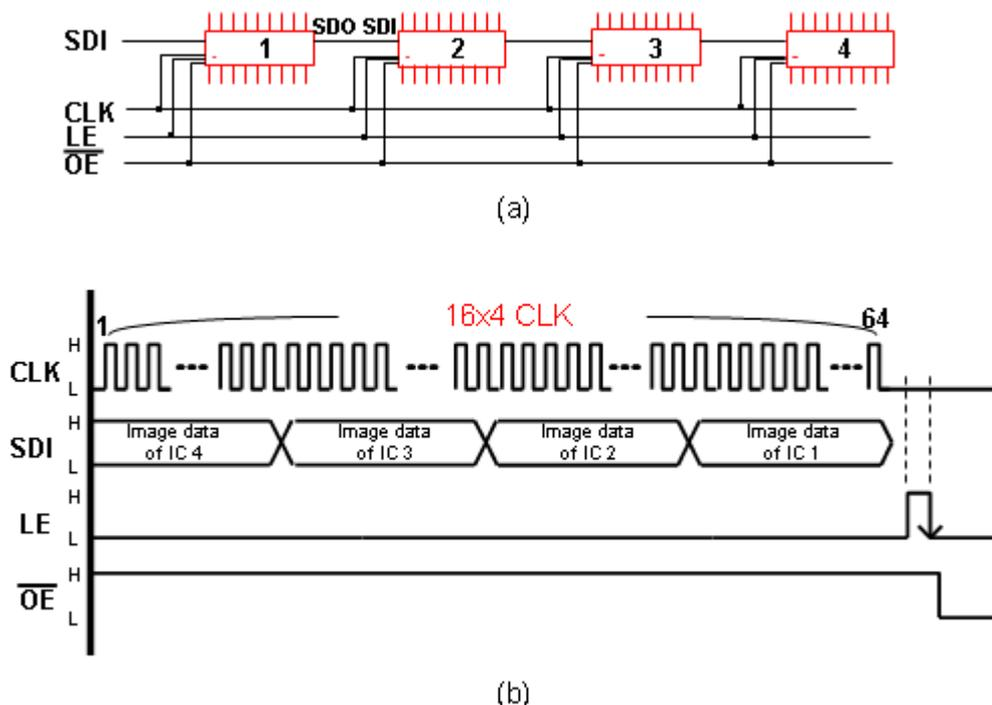

Figure 3(a). The sketch of 4pcs MBI5039 is in cascade.
Figure 3(a) gives an example of 4pcs MBI5039 ICs in cascade, and 3(b) shows the timing diagram for basic LED display control: The image data are transferred from the SDI of first driver IC to shift register by 16x4 CLK rising edge. And then as the falling edge of LE triggers, image data is transferred and latched into 16-bit output latch register. LE pulse should not cover CLK rising edge. In the following, when  $\overline{OE}$  changes from high to low (active), the output drivers are enabled.
Step 3: Deliver the signal as Figure 3 shows. The SDI pin writes with the code of "FFFF (HEX)".